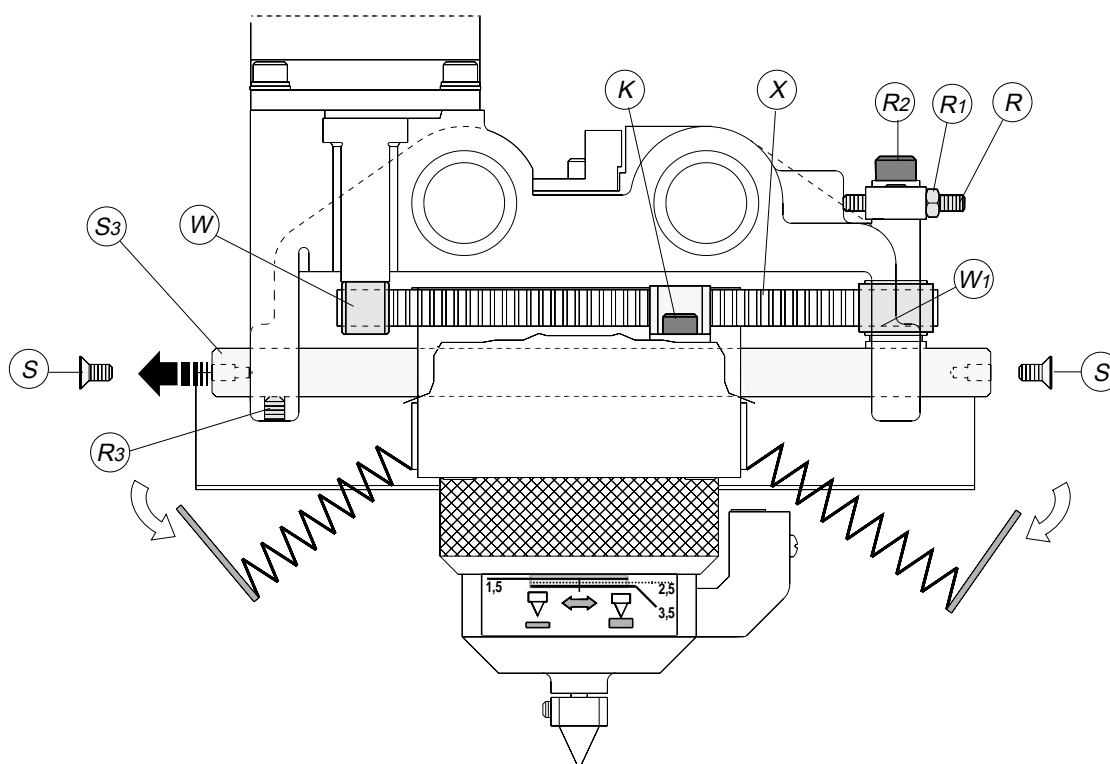

Fig. 36
- 5) remove the four screws (S) securing the bellows (fig. 36).
- 6) loosen screw (R2), the nut (R1) and the belt pulley (R).
- 8) loosen screw (K) until the belt is free (fig. 36).
- 9) place the new belt in position and re-assemble the head, ensuring that the belt (X) is placed on the outside of the pulleys (W) and (W1).
- 11) adjust belt tension by means of the belt tightening pulley (R).